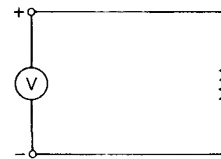

Fig. 2.90 A voltmeter connected across the circuit
2. **Measurement of voltage.** Voltage is measured by connecting a voltmeter *across* a circuit as shown in Fig. 2.90.